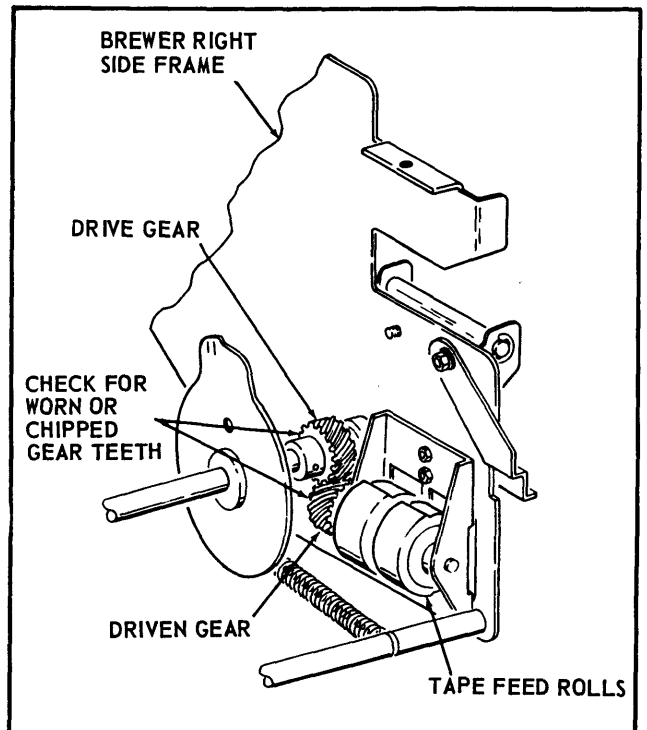

Figure 2.
1. If the Filter Tape Feed Rollers are attached with Holding Screws, skip Note 3 and do not use the Spacer and Washers included in Kit. Brewers which have Right Side Frames which have the Rollers attached with Holding Screws look the same as the Side Frame in Figure 2.